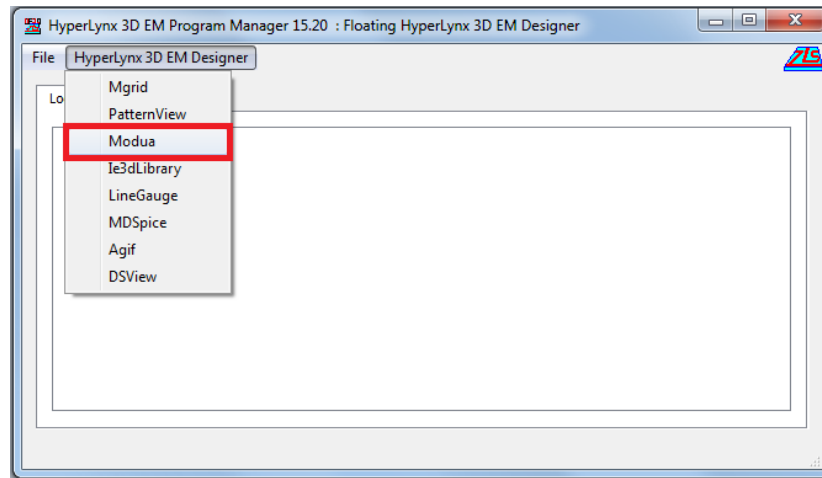

Fig. 28 Modua On HyperLynx 3D EM Designer Program Manager
1. Launch *Modua* from **HyperLynx 3D EM Designer Program Manager** (see Fig 28).